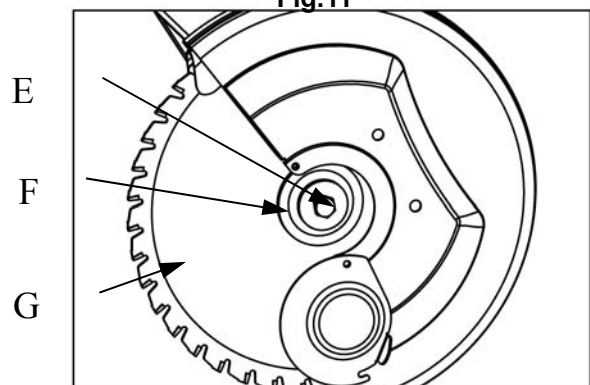

Fig.12
4. Using the provided arbor wrench, loosen arbor screw (E) by turning it counter clockwise, and remove arbor screw (E), outside blade flange (F). Push up the big blade guard and remove the blade (G) as shown Fig. 12.